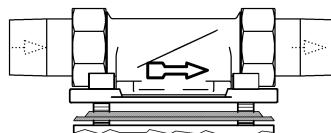

Fig. 1: Built-in rotary flange
- / direction of flow (see fig. 1),